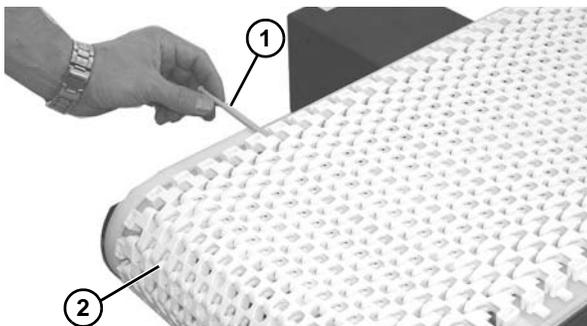

Figure 33
- Use a punch and hammer to push the belt rod (Figure 33, item 1) out by striking the rod end opposite the retaining head.
- Slide the old belt (Figure 33, item 2) off the conveyor frame.